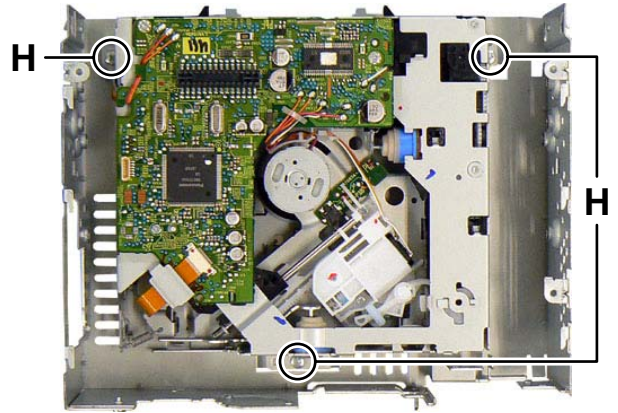

Fig.7
3.1.4 Removing the CD mechanism (See Fig.7)
3.2.4 Removing the PHOTO BOARD assembly (See Fig.7 and 8)
- From the bottom side of the top cover, release the projection **e** from the notch of the disc plate. (See Fig.7.)
- Take out the disc plate in the direction of the arrow. (See Fig.7.)